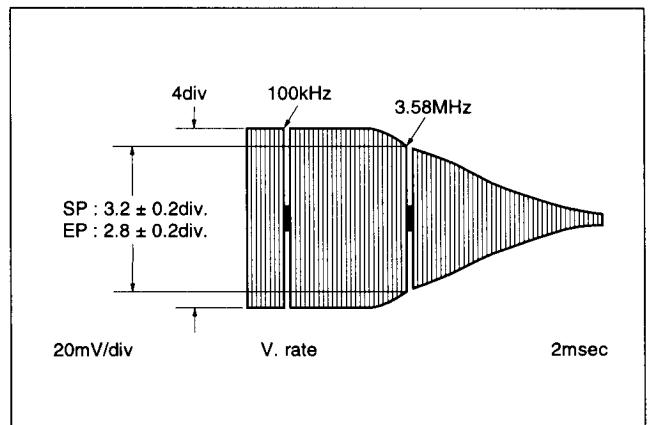

Fig. 3-4-8 S-VHS VIDEO EQ
- (1) Playback the SP (EP) color bar signal of MH-1H alignment tape.
- (2) Make a note of the higher color level "A(B)".
- (3) Press the **STOP** button and eject the MH-1H alignment tape.
- (4) Set EVR mode A:2.
- (5) Record a color bar signal in SP (EP) mode, and playback recorded color bar signal.
- (6) Before recording, adjust **SET** or **SELECT** button so that the higher level channel becomes 130 ± 5% : SP (100 ± 5% : EP) of the note "A(B)" level during playback as shown in Fig. 3-4-8.
- (7) Set normal VCR mode by pressing **MENU** button so adjustment data is memorized.